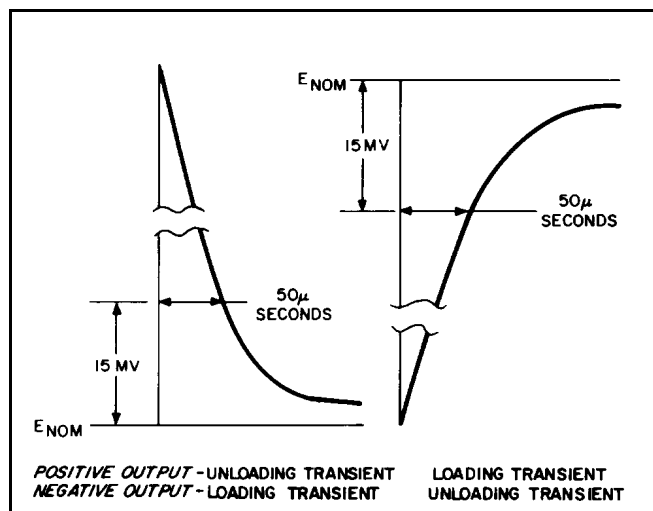

Figure 5-6. Load Transient Recovery Time Waveforms
i. Starting from the major graticule division representing time zero, count to the right $50\mu s$ and vertically 15mV. Recovery should be within these tolerances, as illustrated in Figure 5-6.